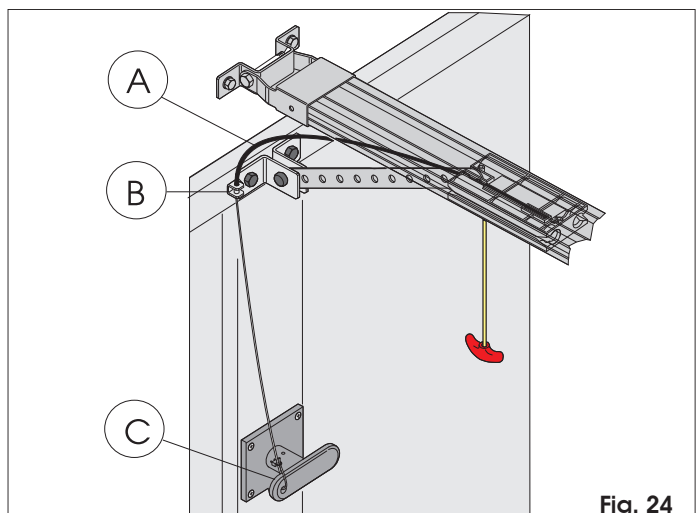

Fig. 24
- 1) Cut the cable sheath to size (Fig. 24 ref. A).
- 2) Fit the cable inside the sheath and route it through the eyelet of the door fitting (Fig. 24 ref. B).
- 3) Cut the cable to size and assemble it together to the internal lever of the release handle (Fig. 24 ref. C).